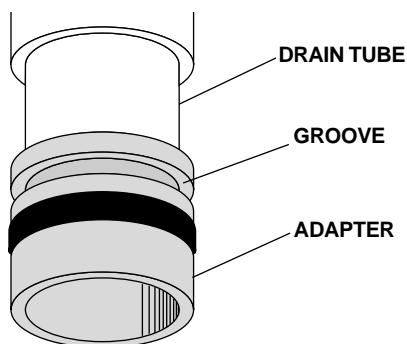

FIGURE 35
2. Install the vacuum wash station assembly on the adapter, then tighten the thumbscrews in the groove (see *Figure 35*).